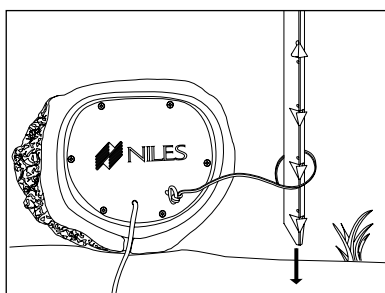

Figure 12 Security Stake Attachment to Cable
5. Feed the Security Stake through the loops at the end of the security cable and insure that they are inserted into the cable holder provided at the top of the stake, as shown in **Figure 12**.